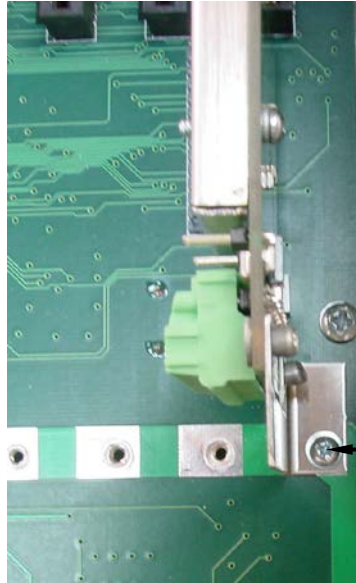

Figure No. 13
1. Reinstall the 825-SIB into the rear enclosure and secure it to the main PC board with the screw removed earlier. See Figure No. 13.